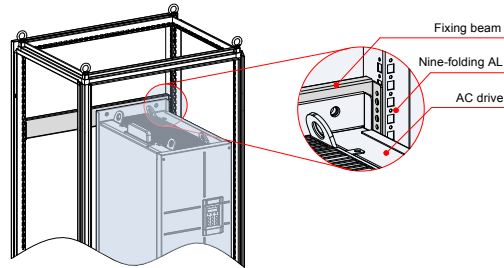

Figure 3-16 3D view of MD500ET200G(-L) to MD500ET450G(-L)
- When the drive of MD500ET200G(-L) to MD500ET450G(-L) is mounted in the nine-folding AL cabinet of 600 mm deep, the fixing beam must fold inwards, as shown in Figure 3-16. When the drive is mounted in the cabinet of 800 mm deep, folding inwards is not required.